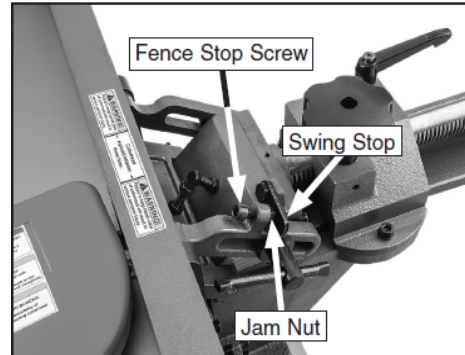

Figure 16
2. Flip the 90° swing stop into the position shown in Figure 16
3. Loosen the jam nut on the 90° fence stop bolt Figure 16